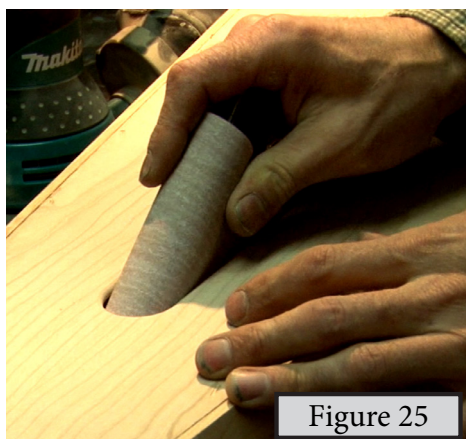

Figure 25
25) Sand the access holes in the back panel using a 120- then 180-grit sandpaper. Be sure to clean up the entire perimeter of each hole. This will make for more comfortable handling once the harp is finished. (Figure 25)